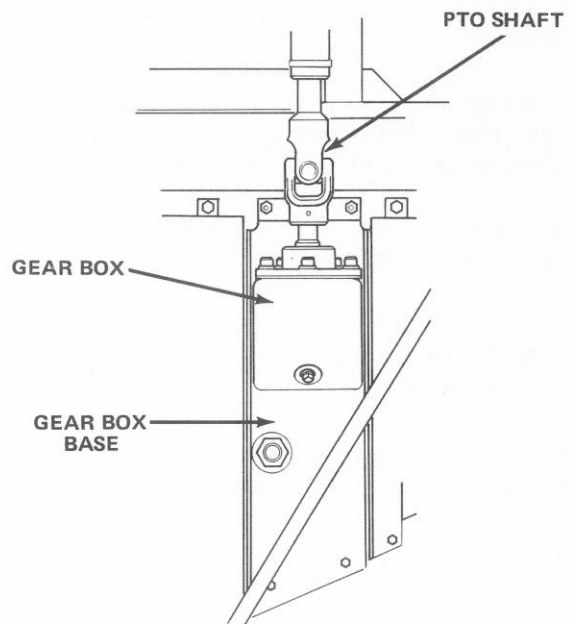

Figure 37
4. To install new belt, the gear box base must be removed. To do this, remove four carriage bolts, lockwashers and nuts holding gear box base (Fig. 37).
6. Install gear box base with carriage bolts, lockwashers and nuts (Fig. 37).